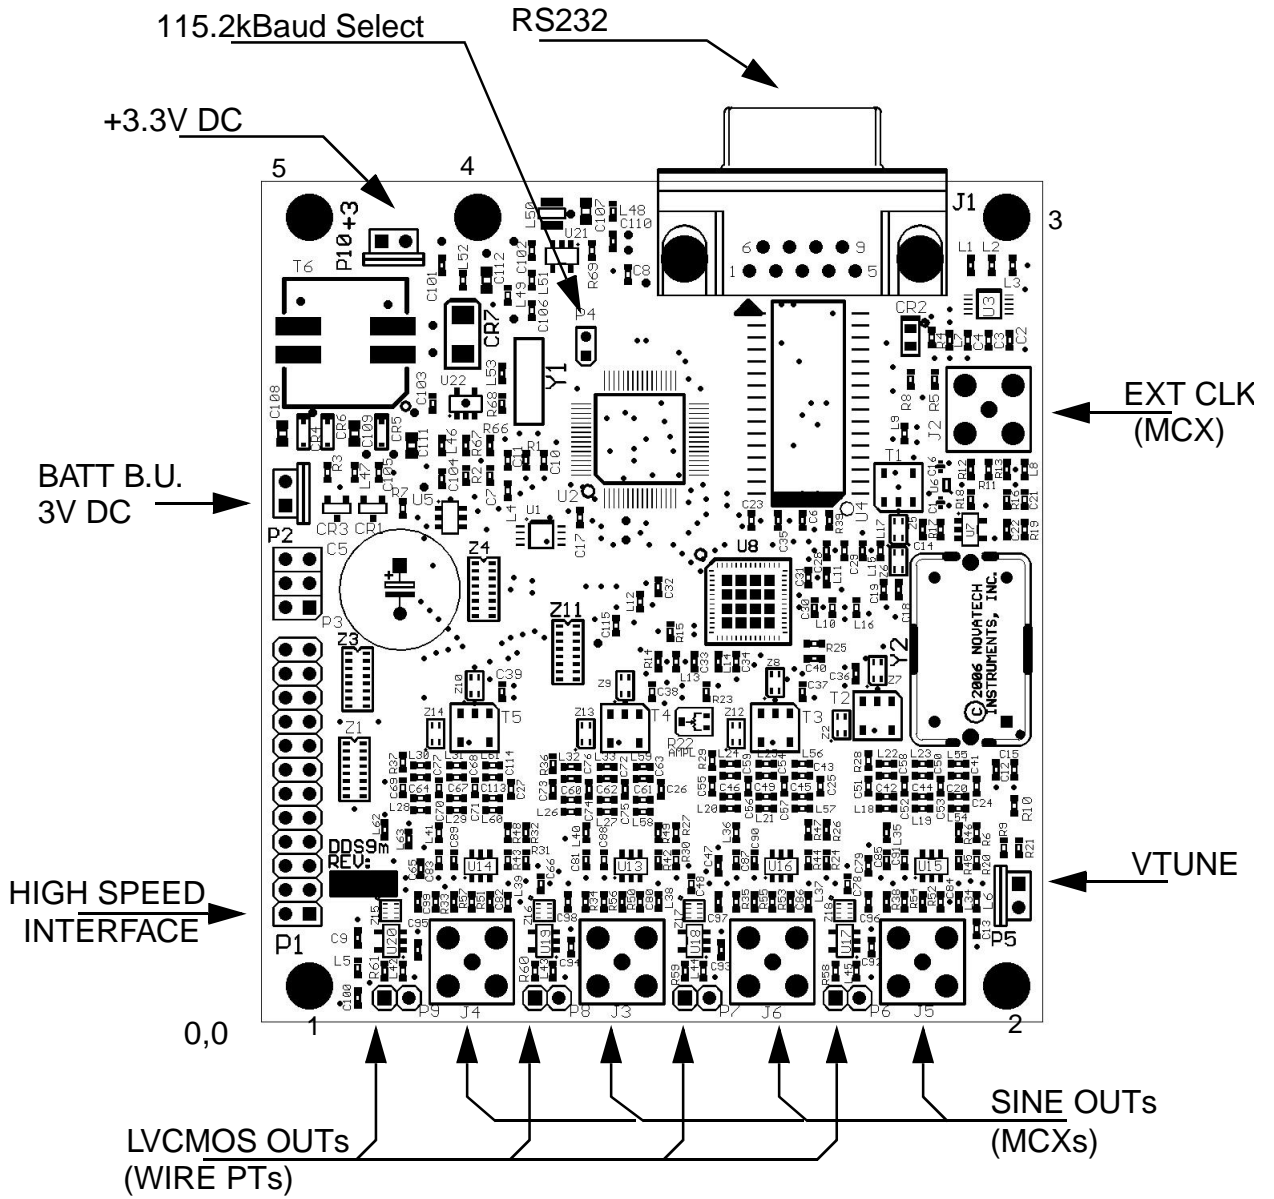

Figure 1: Component Placement
3.1 **Power Connection.** Figure 1, Connection Placement Diagram, shows a top view of the DDS9m module. The required power of +3.3Volts DC is applied through a 2-pin connector (mates with Amp 640621-2). If you are using a Novatech Instruments supplied connector, Red is +3.3VDC and Black is the common return.
**3.16 Mounting.** Five mounting holes are provided on the board. These holes are electrically connected to circuit common and may be used for shield connections. Clearance is provided for up to 3mm diameter screws. Please allow at least 3 mm clearance on the bottom side when mounting to a conductive chassis or case. Refer to Table 3 and Figure 1 for locations.
*A jumper is provided to select 115.2kBaud as the default Baud Rate. Refer to Figure 1 for location. When the 2mm jumper is moved so the header pins are open, 115kBaud is selected. It is suggested that the jumper be left on a free pin for future use.*